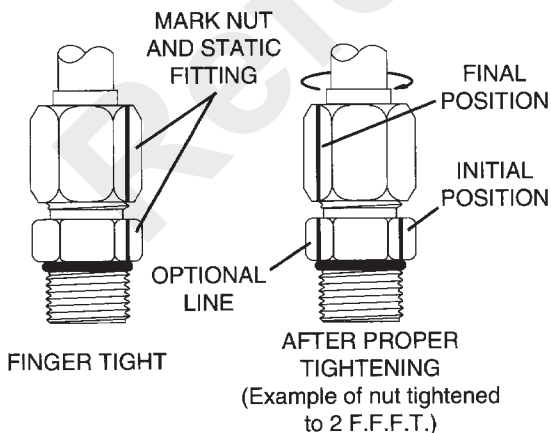

FIGURE 1-7
4. Using a permanent-type ink marker, make a mark on one of the flats of the nut and continue it onto the hex of the static fitting or port (Figure 1-7.)
6. (Optional for future tightening of the same connection.) Extend the line from the nut at its new location onto the hex of the static fitting or port (Figure 1-7).